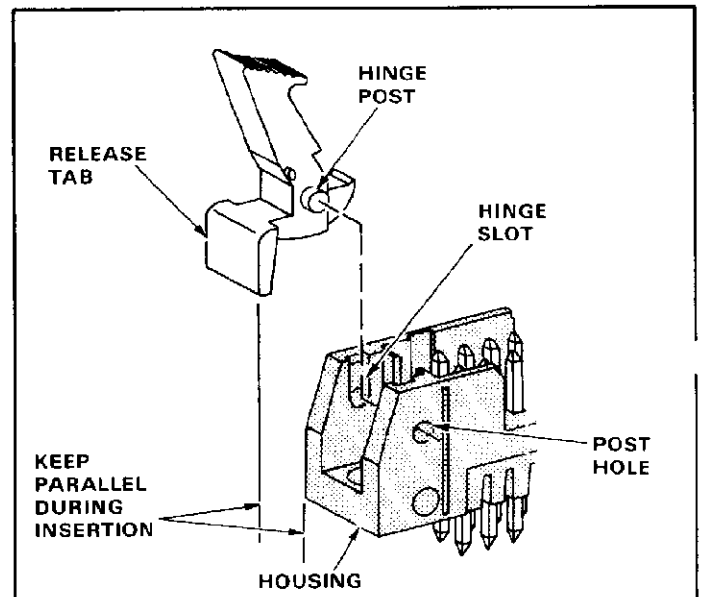

Fig. 3
- a. Align latch with header as shown in Figure 3 — note that release tab must be parallel with end of housing.
- b. Keeping tab parallel, insert the hinge posts into the hinge slots until locked in the hinge post holes. See Figure 3.